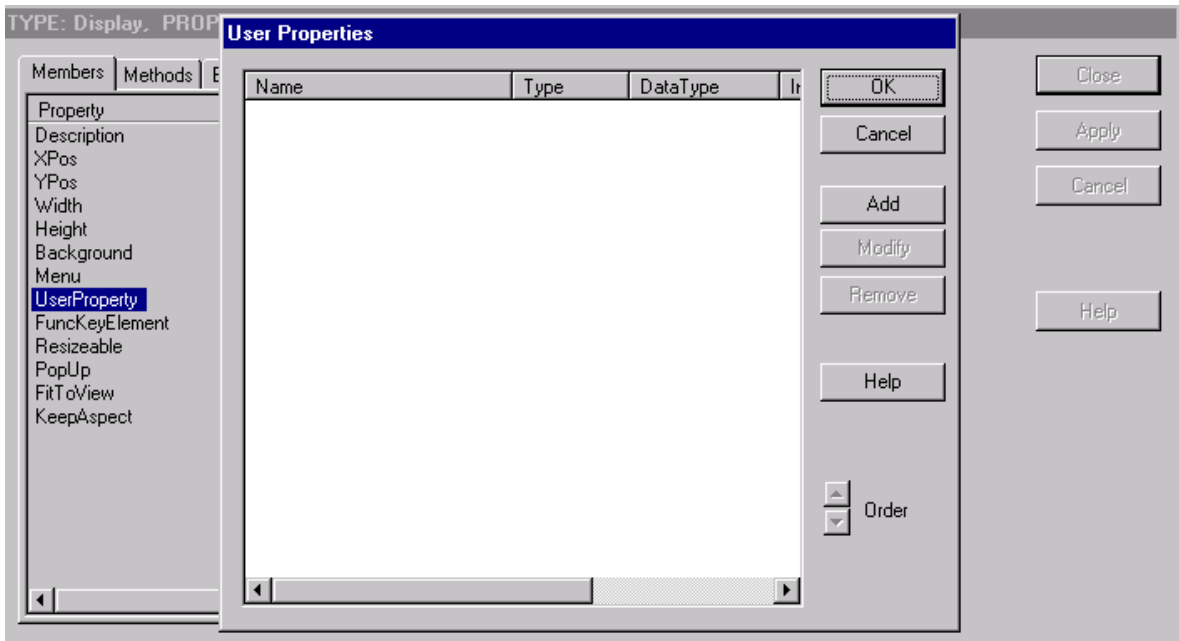

Figure 141. User Properties Dialog
- b. Select the **UserProperty** property. This displays the User Properties dialog, Figure 141.